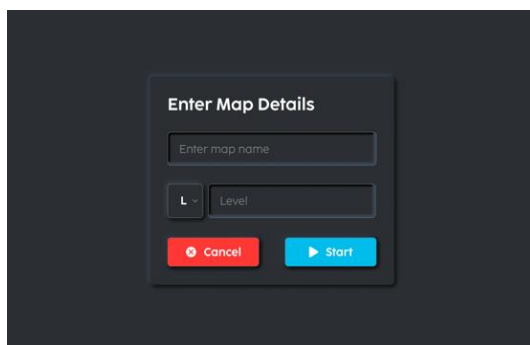

FIGURE 4-3
3. Enter a 'Map Name' and 'Level' of the map, then click 'Start' (Fig. 4-3).